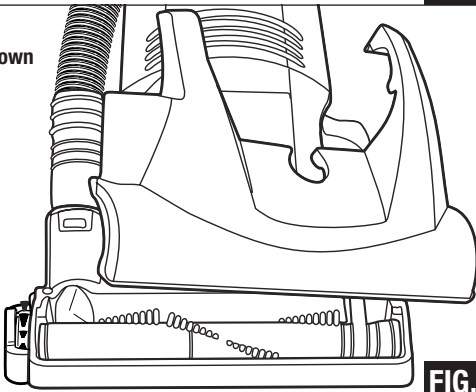

FIG. 23
Step 3: Lift hood to remove (FIG. 23).